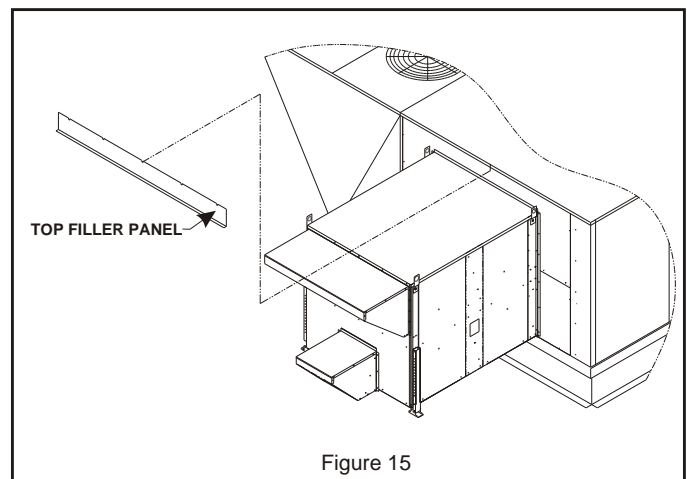

Figure 15
- Secure ERS to RTU with provided 10-16 x 1/2" gold screws through ERS side flanges to door filler panels installed earlier. **See Figure 15.**
- Insert remaining top filler panel with the notches upward under the top of the RTU to cover the top flange of ERS. **See Figure 15.**